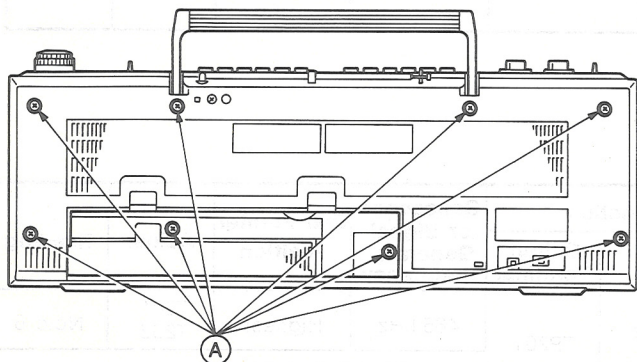

Fig. 2
2. Rear Case Removal (Fig. 2, 3)